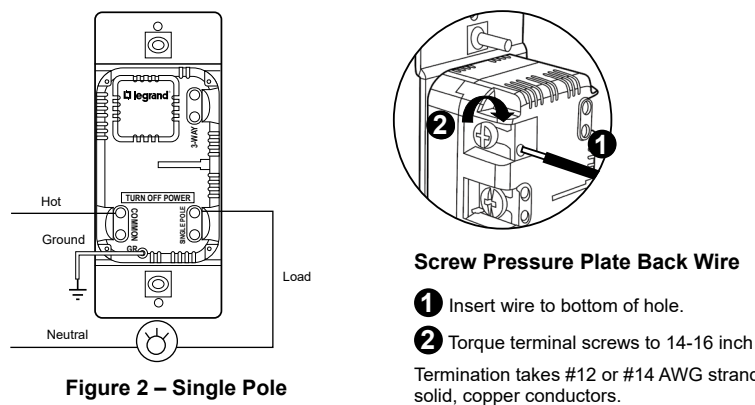
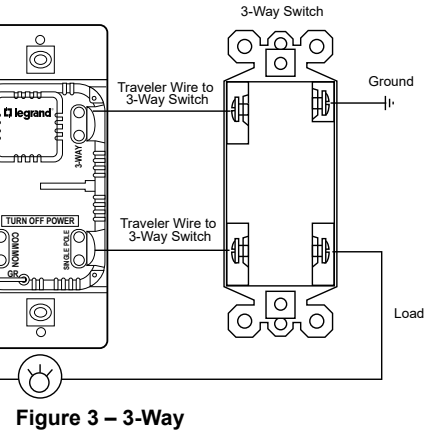

Figure 2 – Single Pole
Figure 3 – 3-Way
- Connect dimmer as shown in the installation diagram using #12 or #14 AWG wire stranded or solid copper conductors. Note that the dimmer and 3-way switch positions may also be reversed from that shown. Strip the wire to the length shown on the back of the product. (Figure 2 or Figure 3). Torque terminal screws to 14-16 inch lbs.